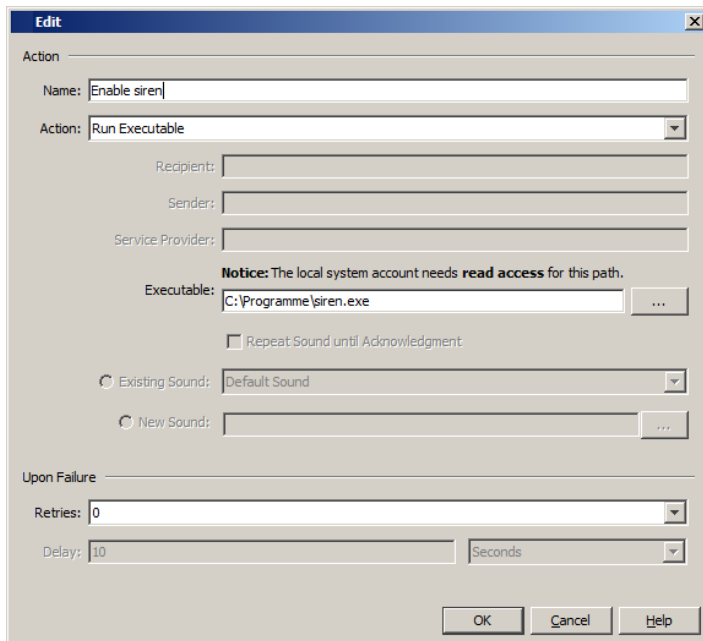

Figure 71: Configuration:Preferences:Basics:Event actions:Actions, Example for using the action “Execute program” for the user program “siren.exe”
- ▶ Execute a program (see note in “Installation under Windows”). In the figure below (see figure 71), you will find the user program “siren.exe” as an example.